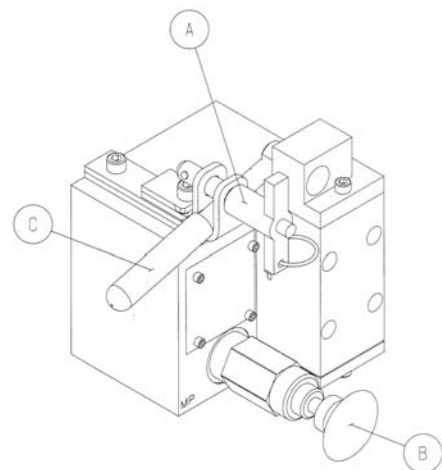

Figure 15
4. The Turntable Valve (Figure 15) has a locking pin (A) & bracket that locks the turntable directional control valve (C) in the DOWN position. (Machine is "DOWN" on track). Hydraulic oil is directed to retract side of the turntable cylinder in this position. Ensure the turntable valve is in the "DOWN" position.